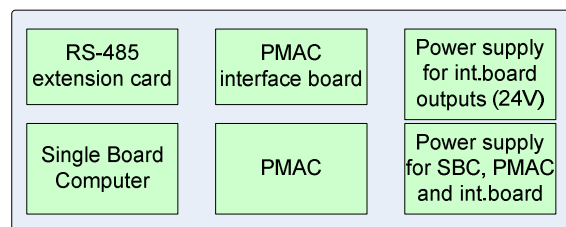

Figure 2: microIOC-M-Box-PMAC block diagram
- microIOC-M-Box-PMAC (Figure 2) – microIOC-based product, offering an advanced motion control functionality and control of general-purpose signals. microIOC is very flexible SW platform, which provides control of all the modules and provides a hosting environment for control-system application (product benefits and features are described in document [2]). Motion control is implemented by a PMAC controller [3] that handles the motion control of up to eight axes. Additionally, a PMAC interface was developed that provides voltage translation and optical isolation of signals (addressing large distances and possible noisy environments). This interface board is highly programmable (using Xilinx CPLD XC95216, [4]) by the means of signals' mappings that the board passes through (inverted signals, applying logical functions, etc). PMAC interface board also extends available PMAC's per-axis input/output signals to provide control of the additional functionality (such as brake control, interlocks, etc.). To provide communication with remote analog module (for position feedback) and digital input/output module an RS-485 communication card with optically isolated outputs (addressing large distances and possible noisy environments) was added.